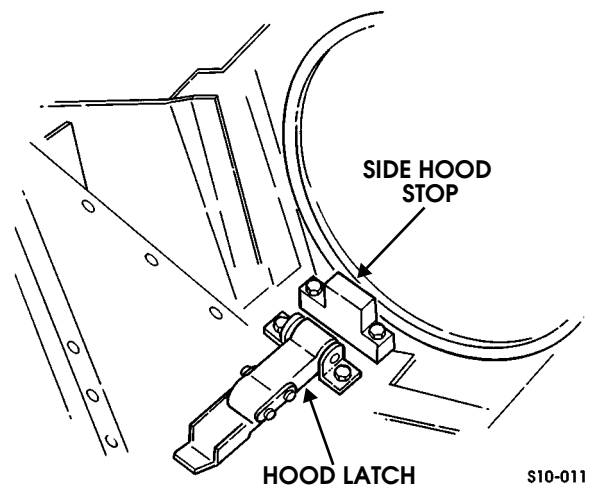

Figure 10-88: Hood Latch and Stop Location
8. Lube all hood stops, hinges, and guide brackets. Latch hood (Figure 10-88).